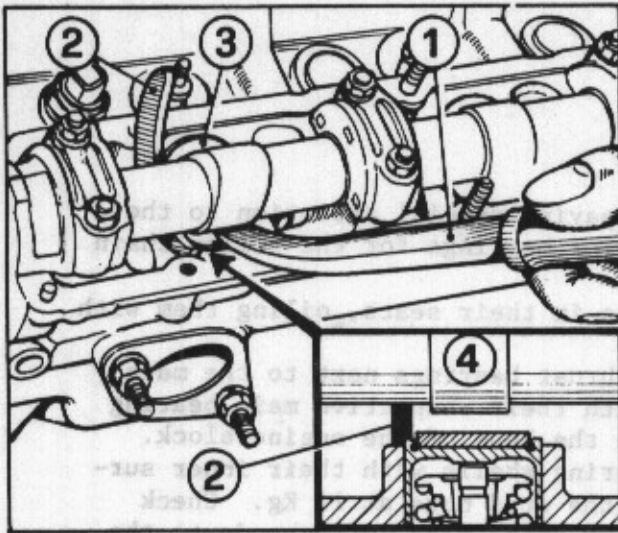

Fig. 27 Shim removal
-Rotate the crankshaft until the number 4 cylinder valves are in balance (fig. 27), i.e. the exhaust is just about to close and the intake valve is just about to open.
To remove the shims, use tool 706-AS-9560, push down on the valve stem caps. Then insert the spacer 2 (fig. 27) to keep the tappet assembly down. After removing tool 1, use compressed air to remove the shim from between the tappet assembly and the cap.